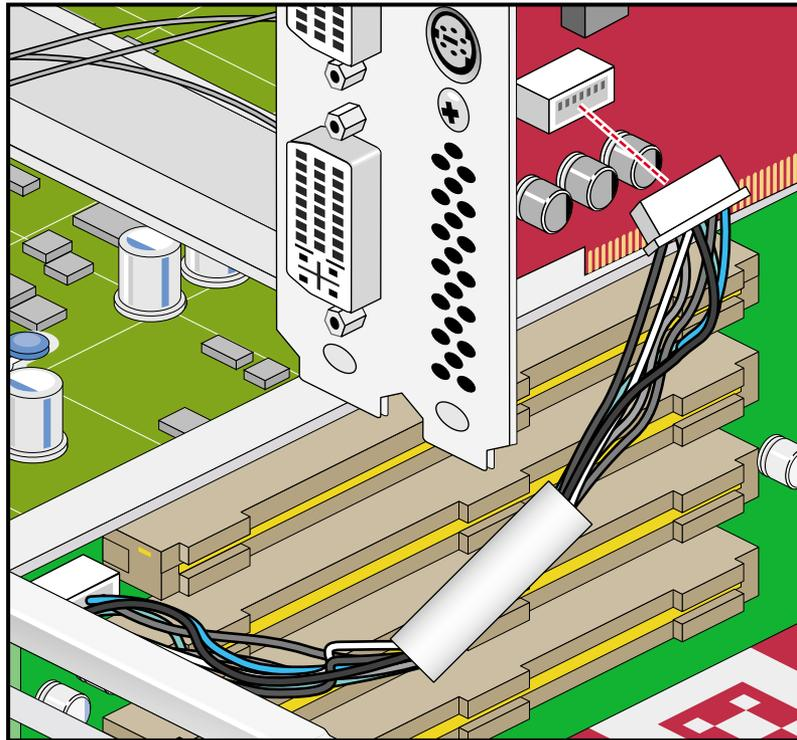

Figure A-17 Synchronization Cable Connection on Underside of Graphics Card
12. Carefully turn the graphics card over and disconnect the 7-pin keyed synchronization cable from the bottom (it attaches the graphics card assembly to the PCI riser board). See Figure A-17 on page 116.
2. Gently insert the 7-pin synchronization cable into the connector on the bottom of the replacement graphics card, see Figure A-17. The connector is keyed and will only insert in the proper orientation. You should hear or feel a slight snap as the connector is seated.